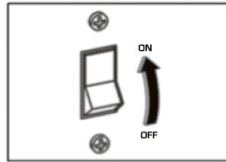

Fig 1
7.1.1. Switch to the "ON" position. FIG.1